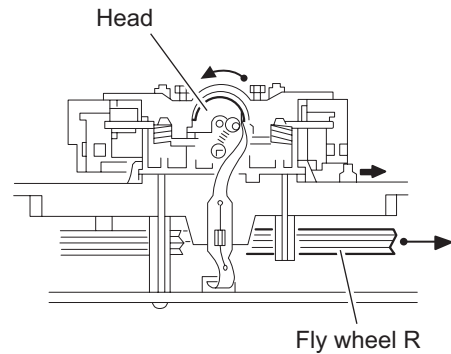

Fig.2
- (1) While moving the trigger arm on the right side of the head mount in the direction of the arrow, turn the flywheel **R** counterclockwise until the head mount comes ahead and clicks.
- (2) The head turns counterclockwise as you turn the flywheel **R** counterclockwise (See Fig.2 and 3).
- (3) Disconnect the flexible wire from connector **CN31** on the head amplifier & mechanism control board.
- (4) Remove the spring from the back of the head.
- (5) Loosen the azimuth screw for reversing attaching the head.
- (6) Remove the head on the front side of the head mount.